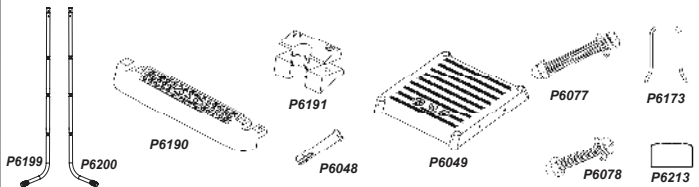

Figure 2
2. Step Installation (figure 2):